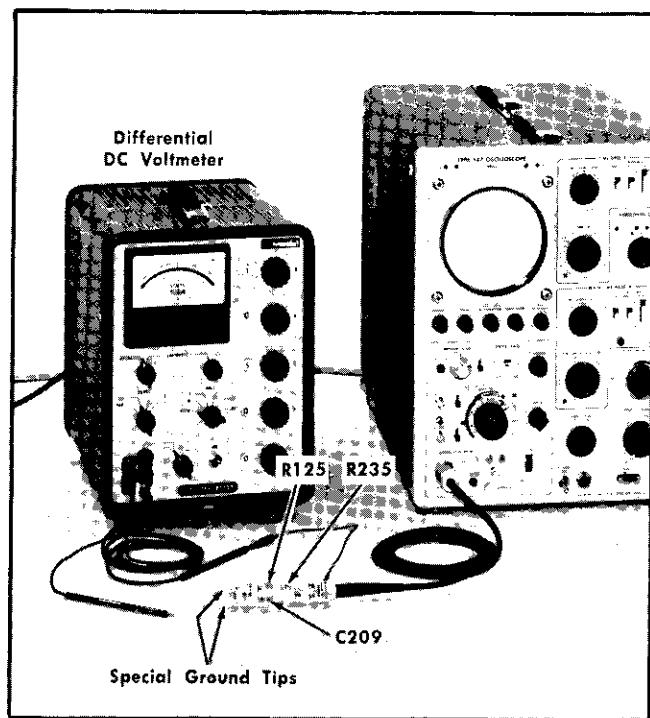

Fig. 6-4. Equipment setup for steps 1 and 2.
a. Equipment setup, adjustment location and test point are shown in Fig. 6-4.
b. Attach the special ground tips (item 20) to the P6046 Probe + and — input tips.
c. CHECK—Drain Voltage. Using the Differential Voltmeter (item 8), check for  $10.5 \text{ V DC} \pm 0.25 \text{ V}$  at the C209 adjusting screw with respect to the Probe ground lug. (See Fig. 6-4).
d. Adjust—DRAIN VOLTS (R125, Fig. 6-4) for  $10.5 \text{ V DC}$  at the C209 adjusting screw.
a. The preliminary control settings apply. Locations of adjustments are shown in Fig. 6-4.
- h. ADJUST—GAIN SWITCHING BAL (R235, Fig. 6-4) to position the trace to graticule center. A slight amount of drift around the adjusted position may be present at 1 mV sensitivity.)